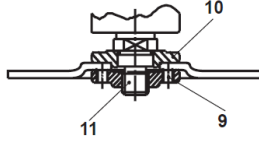

Fig. 14
- Thin wheels (< 4 mm) with curved centre: place the locking flange (9) with protruding side away from the wheel (Fig. 14).